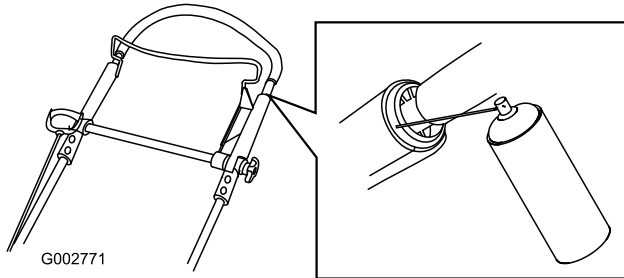

Figure 45
1. Spray the outer plastic end of the inner handle (Figure 45).